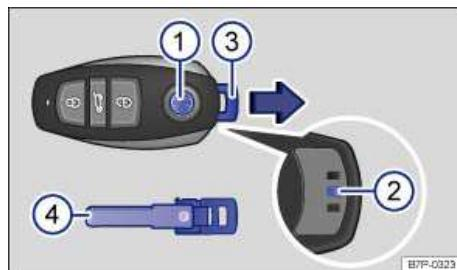
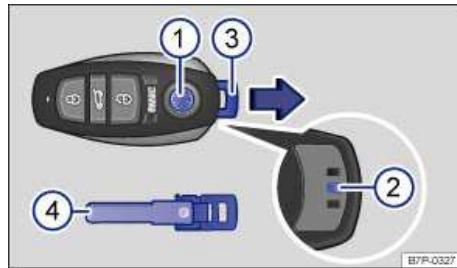

Fig. 21 Releasing the emergency key and removing it from the remote control vehicle key.
Fig. 22 Releasing the emergency key and removing it from a remote control vehicle key with a panic button.
- With one hand, press and hold button (1) ⇒ fig. 21 or ⇒ fig. 22.
- With the other hand, press the locking catch (2) under the emergency key (4) while pulling the key out in the direction of the arrow.